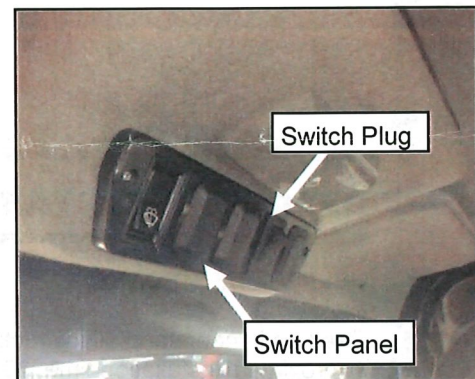

FIGURE 2.1
1. Remove one of the rectangular switch plugs from the vehicle overhead console. (See Figure 2.1)